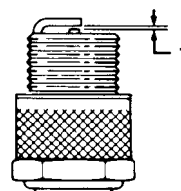

Figure 35
5. Set the gap on the plug to 0.030 in. (0.76 mm) (Fig. 35).